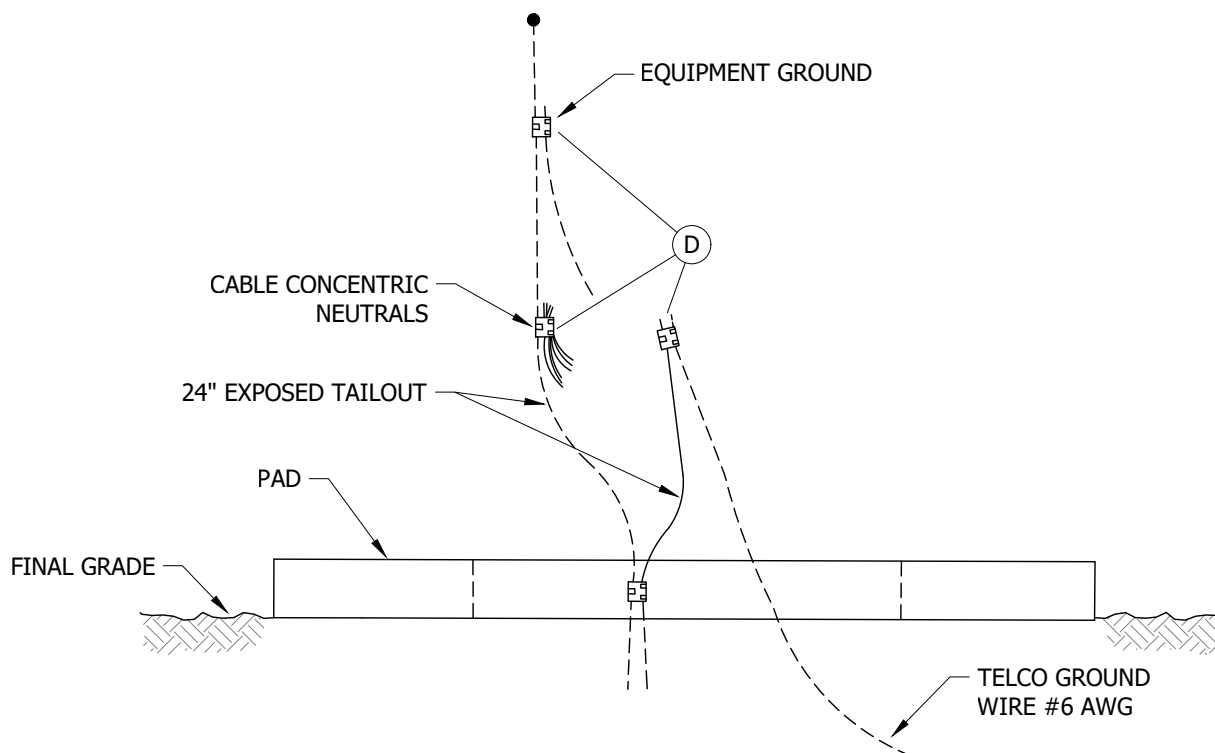

FIGURE 1
- C. WHEN COMPLETING THE SDG&E EQUIPMENT GROUNDING CONNECTIONS, SKIN THE TELCO WIRE AND CONNECT IT TO AN SDG&E GROUND GRID TAILOUT AS SHOWN IN FIGURE 1.